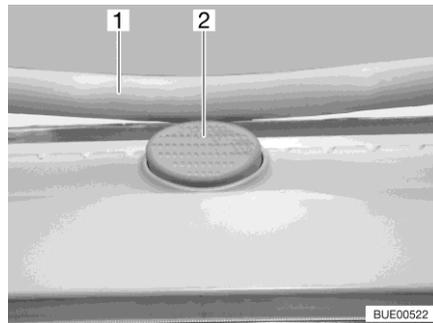

Fig. 28 Safety knob (hinged skylight)
- Press the safety knob (Fig. 28,2) and pull the bar (Fig. 28,1) down with both hands.
- Push the bar upwards with both hands until it is above the safety knob (Fig. 28,2).